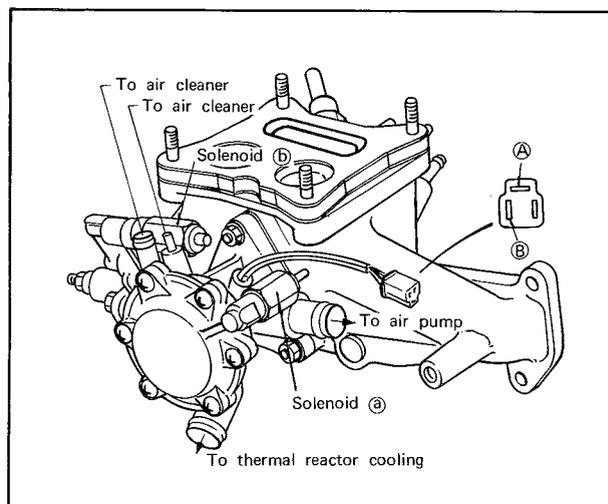

Fig. 1B-7 Checking solenoid
2. To check each solenoid for operation, connect each terminal in the coupler (to solenoids) to the battery as shown in Fig. 1B-7.